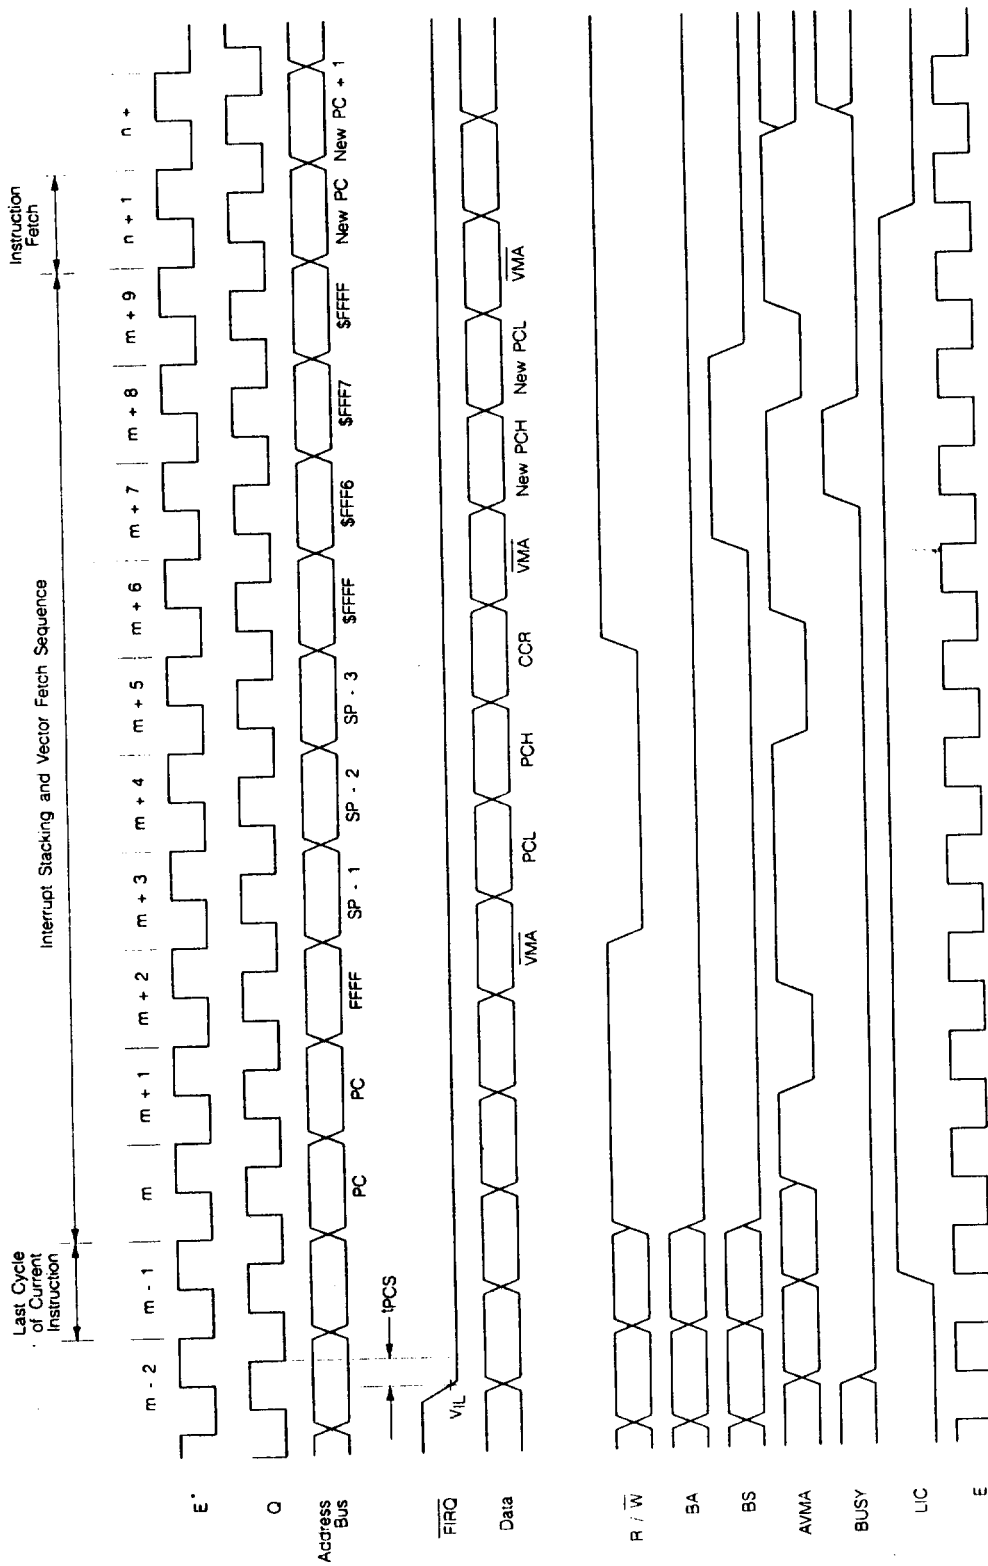

Figure 4: \overline{IRQ} and \overline{NMI} interrupt timing.
A negative transition on this input requests that a non-maskable interrupt sequence be generated. A non-maskable interrupt cannot be inhibited by the program and also has a higher priority than $\overline{\text{FIRQ}}$, $\overline{\text{IRQ}}$, or software interrupts. During recognition of an $\overline{\text{NMI}}$, the entire machine state is saved on the hardware stack. After reset, an $\overline{\text{NMI}}$ will not be recognized until the first program load of the hardware stack pointer (S). The pulse width of $\overline{\text{NMI}}$ low must be at least one E cycle. If the $\overline{\text{NMI}}$ input does not meet the minimum set up with respect to Q, the interrupt will not be recognized until the next cycle. See Figure 4.
A low level input on this pin will initiate an interrupt request sequence provided the mask bit (I) in the CC is clear. Since $\overline{\text{IRQ}}$ stacks the entire machine state, it provides a slower response to interrupts than $\overline{\text{FIRQ}}$. $\overline{\text{IRQ}}$ also has a lower priority than $\overline{\text{FIRQ}}$. Again, the interrupt service routine should clear the source of the interrupt before doing an RTI. See Figure 4.